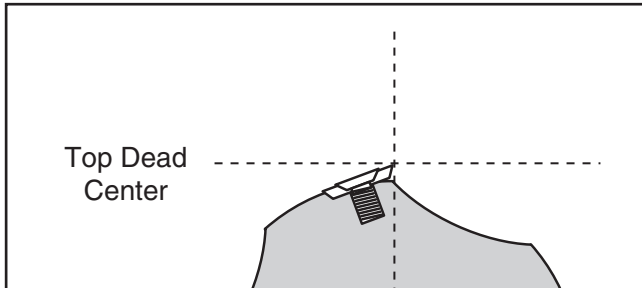

Figure 12. Cutterhead insert at top-dead-center.
26. Place a straightedge on the outfeed table so it extends over the cutterhead, and rotate the cutterhead pulley until one of the carbide inserts is at top-dead-center (TDC), as shown in **Figures 12 & 13**.